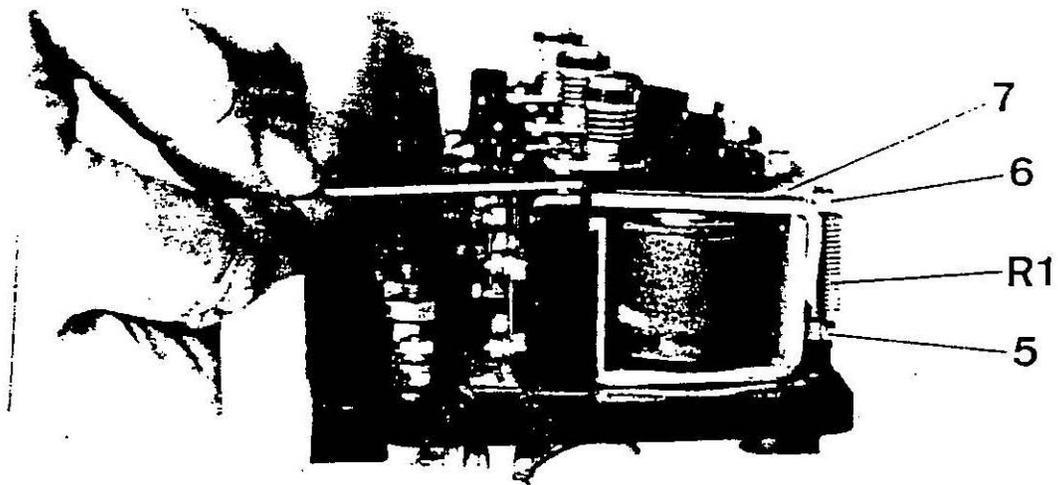

FIGURE 15
V.2 REPLACING OF MOVING CONTACTOR BRACKET (Fig. 15)
- remove screws ⑤
- pull off spring ⑧
- remove screw ⑥ and thrust ⑦